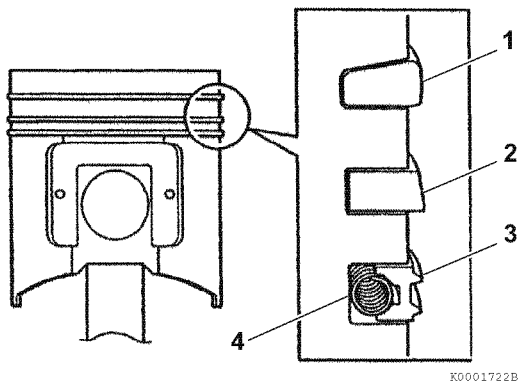

Figure 6-47
12. Remove the compression rings (1, 2, Figure 6-47) from the piston using a piston ring expander.
13. Remove the oil ring (3, Figure 6-47) and oil ring expander (4, Figure 6-47) from the piston using a piston ring expander.